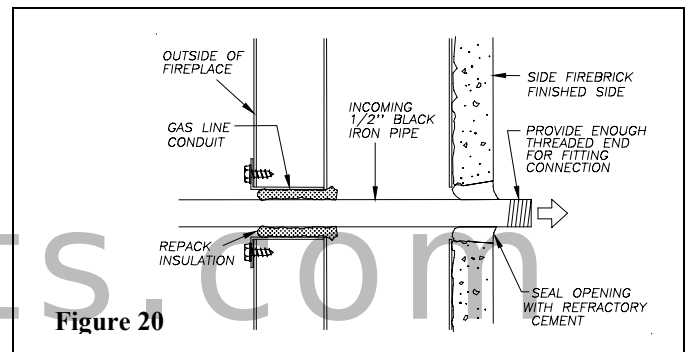

Figure 20
**STEP 3:** Run a 1/2 inch black iron gas line into the fireplace through the gas line conduit sleeve (if using a raised platform, add height). Provide sufficient gas line into fireplace chamber for fitting connection (see figure 20).